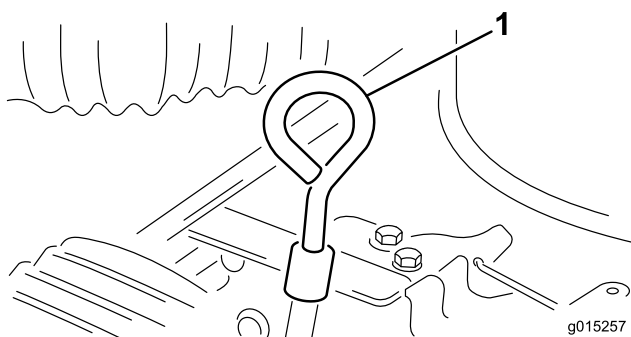

Figure 7
- Clean around the oil dipstick so that dirt cannot fall into the filler hole and damage the engine (Figure 7).